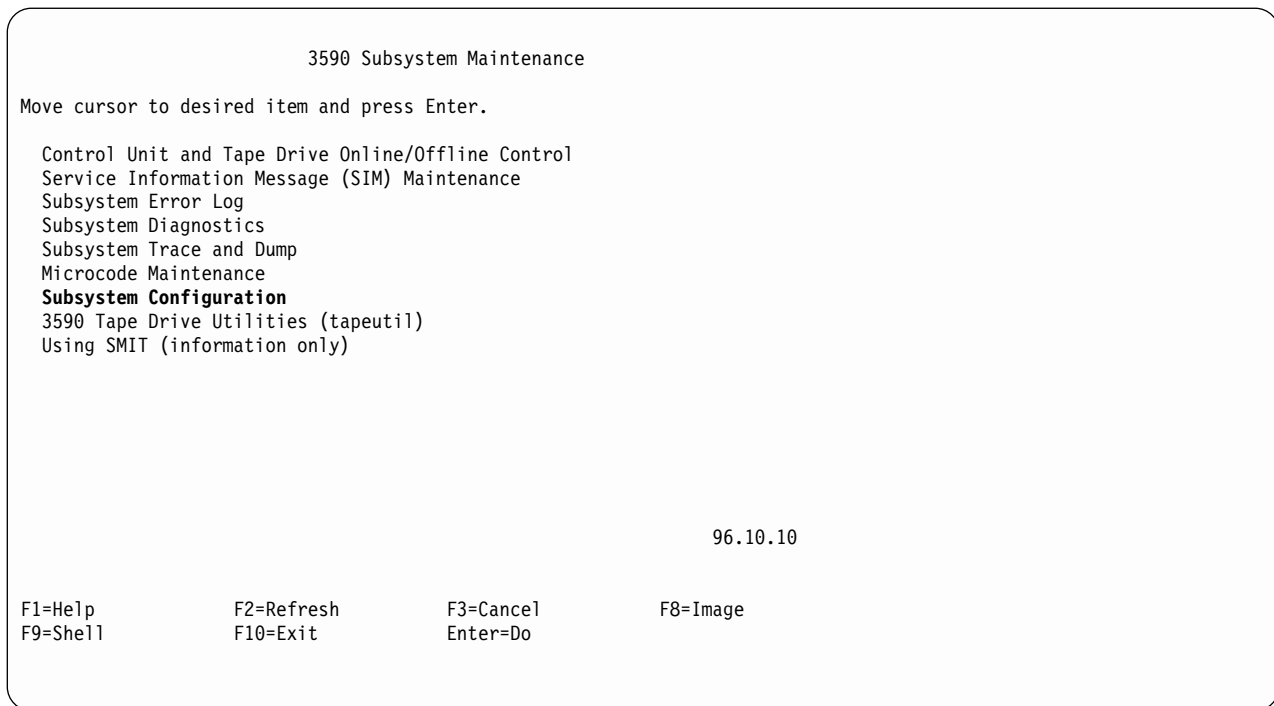

Figure 11-18. &3590 Subsystem Maintenance Screen
2. From the main service menu select **Subsystem Configuration** (see Figure 11-18 on page 11-38). Press **ENTER**.